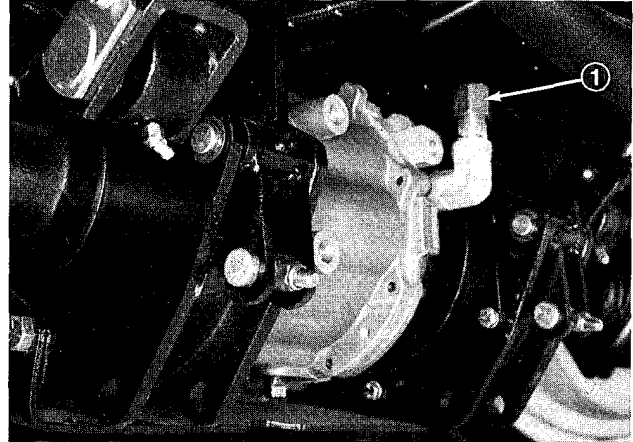

Figure 7
3. Unscrew dipstick cap (Fig. 7) from the filler neck and wipe it with a clean rag. Screw dipstick cap finger tight onto filler neck. Unscrew the dipstick and check level of lubricant. If level is not within 1/2 inch from the groove in the dipstick, add enough to raise level to groove mark. DO NOT OVERFILL by more than 1/2 inch above groove.